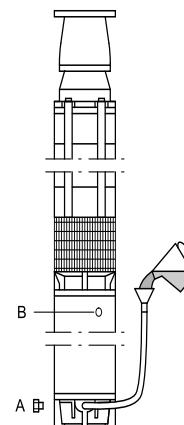

Fig. 4
- Position the submersible pump as shown in fig. 4.
- Remove the screw (A) from the filling hole and fit the nipple with pipe and funnel supplied with the motor.
- Remove the air vent screw (B) to allow possible air in the motor to escape.
- Stop pouring water into the motor. Refit the screw (B) to the vent hole and remove pipe and funnel. Replace the screw (A) in the filling hole and tighten securely.